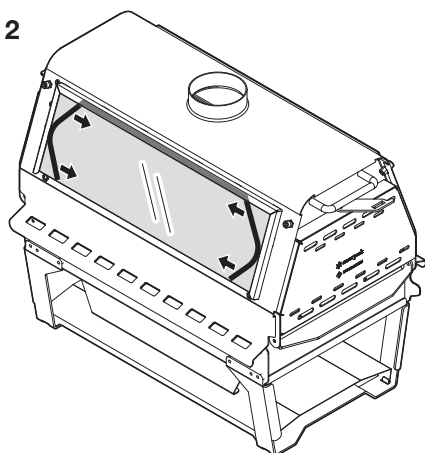

Fig. 3
③ Slowly pull the glass down and remove it. (Fig. 3)